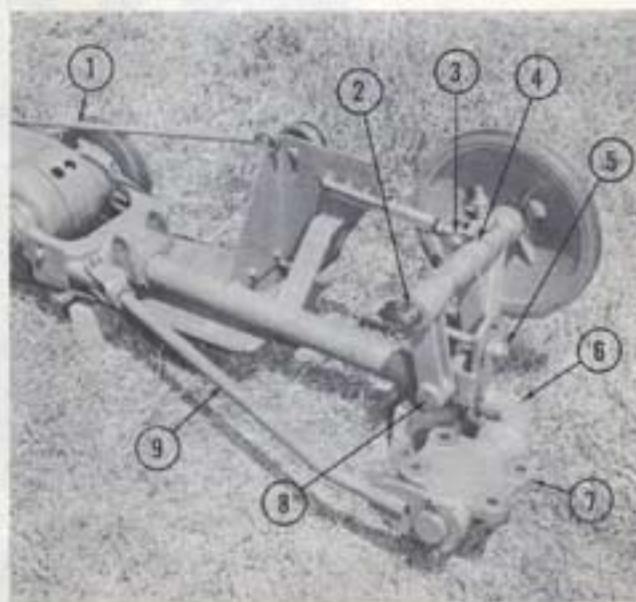
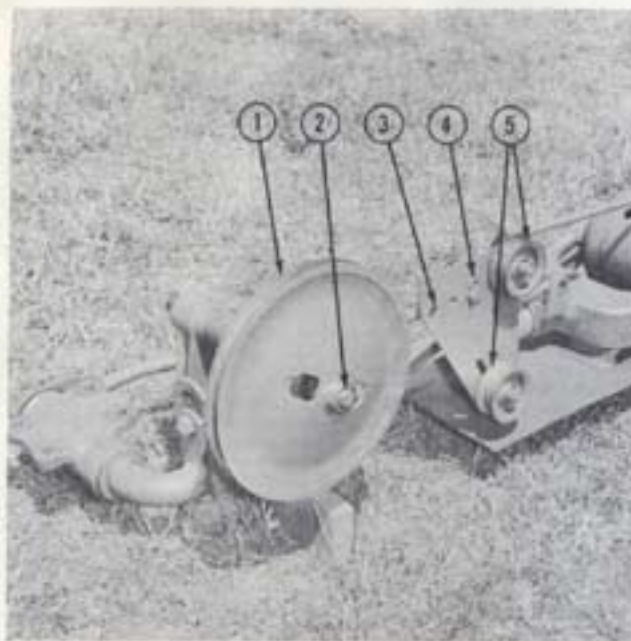

Fig. 52 Second Stage of Assembly
Fig. 53 Third Stage of Assembly
2. Attach the drive shaft housing (No. 4, Fig. 52) by means of the 1" dia. steel pin (No. 8, Fig. 52) this is locked in place by means of a groove pin.
3. Attach the drag bar elbow (No. 6, Fig. 52), and the frame mounting bracket (No. 7, Fig. 52) to the drag bar, this is attached by means of the $\frac{5}{8}$ " tilt adjustment bolt and nut (No. 5, Fig. 52).
4. Attach the pull bar assembly (No. 9, Fig. 52) as illustrated. Use one clevis pin and two cotter pins.*
5. Attach the drive sheave to the housing at the end of the drag bar as illustrated in Fig. 52. This is attached to the drive shaft (No. 2, Fig. 52), by means of a woodruff key, flatwasher, and nut (No. 2, Fig. 53). The belt tensioner (turnbuckle assembly) is attached to the drive shaft housing by means of a clevis pin and cotter pin, (see No. 3, Fig. 52).
bly is placed in one of the three holes in the idler pulley mounting bracket. It is suggested that the hole at the far right (looking from the rear) is used for a start as in Fig. 53. After the belt is installed the operator should check this point by reference to "Belt Tension Adjustment", page 19. The end of the turnbuckle assembly, which is placed through the hole, is locked in place by means of a hair pin (Fig. 53).